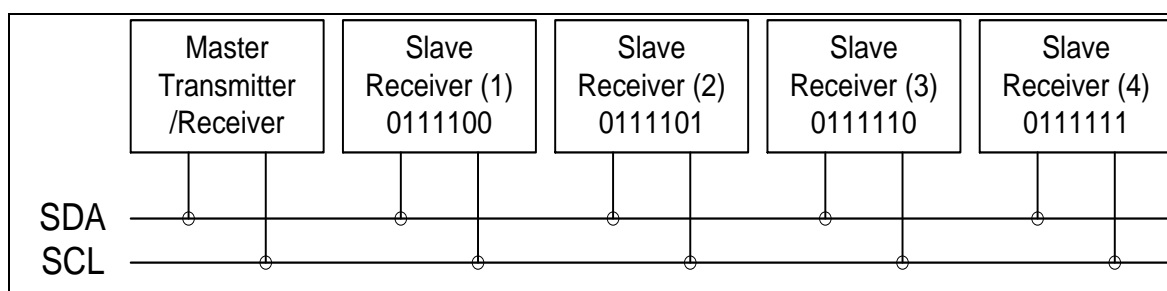

**Figure 12 Definition of START and STOP Condition**
Both SDA and SCL lines remain HIGH when the bus is not busy. A HIGH-to-LOW transition of SDA, while SCL is HIGH is defined as the START condition (S). A LOW-to-HIGH transition of SDA while SCL is HIGH is defined as the STOP condition (P). The START and STOP conditions are illustrated in **Figure 12**.